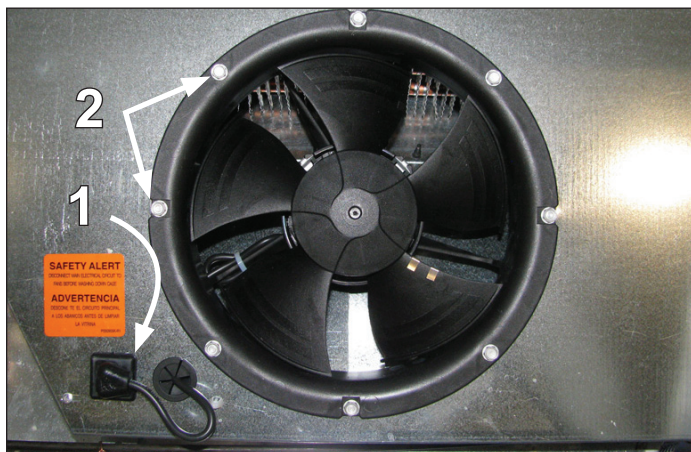

Fig. 17 Fan basket
1. Unplug the fan motor (Fig. 17) from the receptacle on the exterior of the fan plenum. Push the power cord back through the plenum opening.